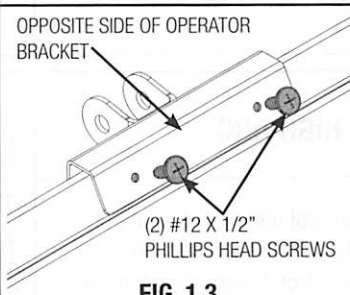

FIG. 1.3
Install (2) #12 x 1/2" phillips head screws on the opposite side of operator bracket, as shown in FIG. 1.3.